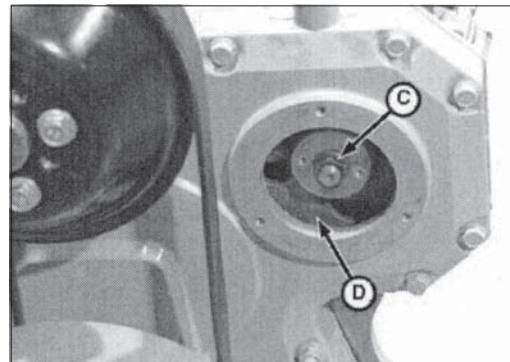

Figure 24 Reproduced by permission of Deere & Company, c.2004. Deere & Company. All reserved.
- Install injection pump gear (Fig. 24 D) on the drive shaft. Install the injection pump gear mounting nut (C) but do not tighten it yet.